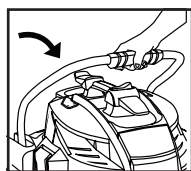

FIGURE 3
3. Lower handle. **FIGURE 3.**